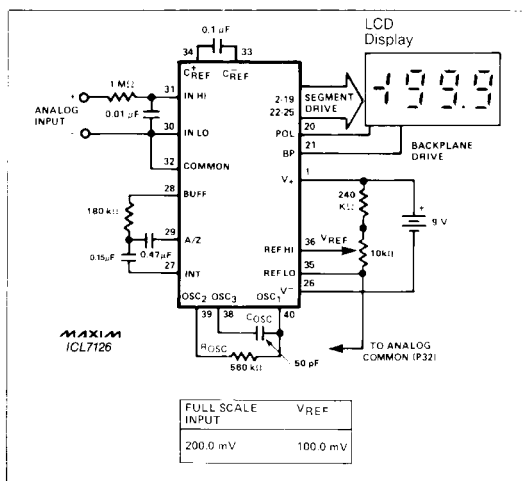

Figure 1. Maxim ICL7126 Typical Operating Circuit
**Note 3:** Unless otherwise noted, specifications apply at TA = 25°C, fCLK = 16kHz and are tested in the circuit of Figure 1.
(V+ = 9V; TA = 25°C; fCLOCK = 16kHz; test circuit - Figure 1; unless noted)
**Note 8:** Test condition is VIN applied between pins IN-HI and IN-LO through a 1MΩ series resistor as shown in Figure 1.
**Note 12:** 1MΩ resistor is removed from circuits in Figure 1.